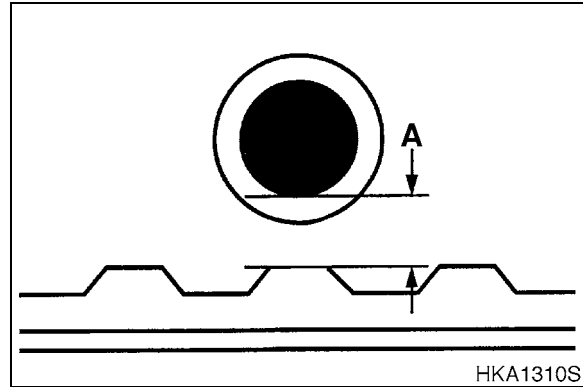

**Figure 2**
2. Measure the distance (A, Figure 2) between the rolling surface of the track roller and the contact surface of the crawler.